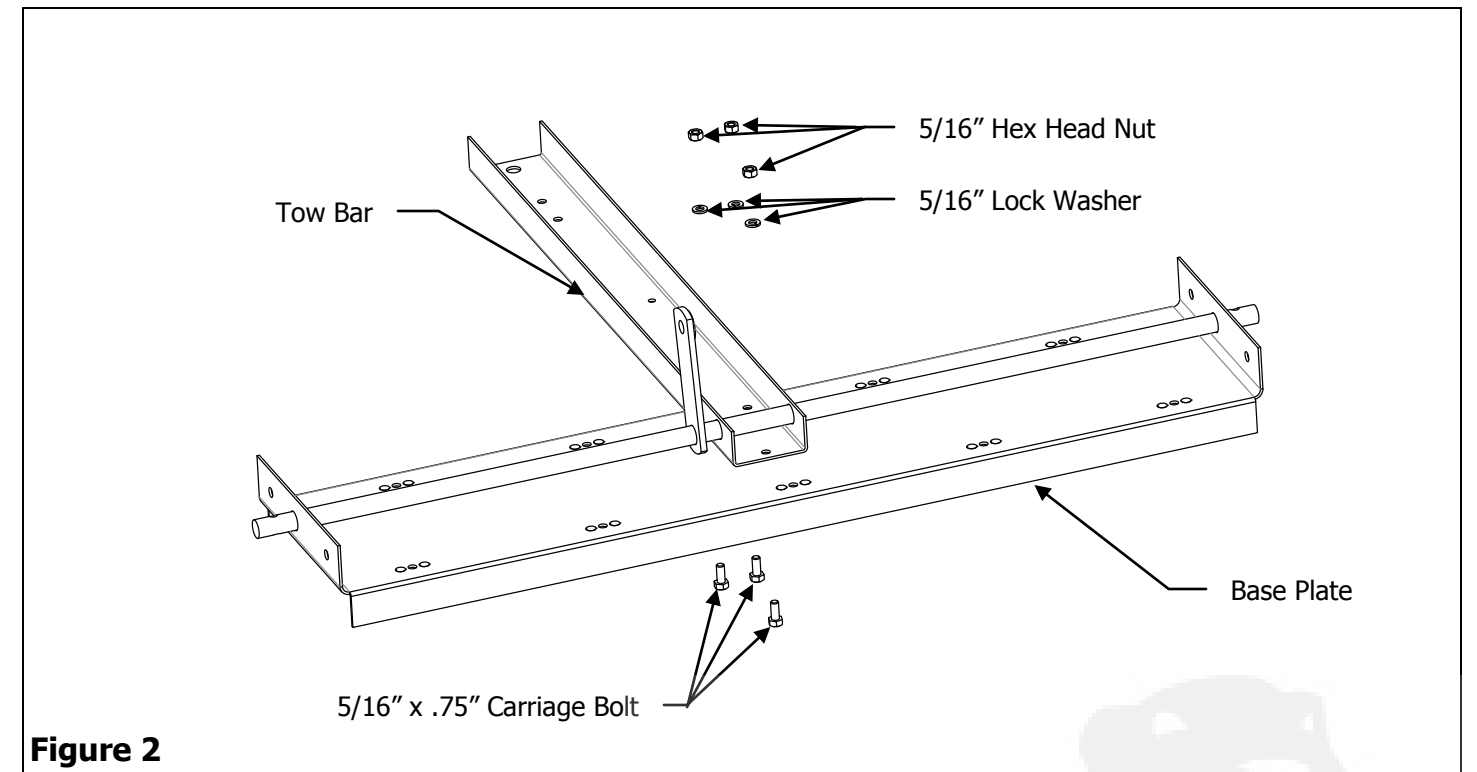

Figure 2
2. Align the three rear holes in the Tow Bar with the corresponding hole in the Base Plate. Insert a 5/16" x .75" Carriage Bolt into one of the holes in the Base Plate then through the corresponding hole in the Tow Bar. Insert a 5/16" Lock Washer, then secure with a 5/16" Hex Head Nut. Repeat process on the remaining two holes. See Figure 2.